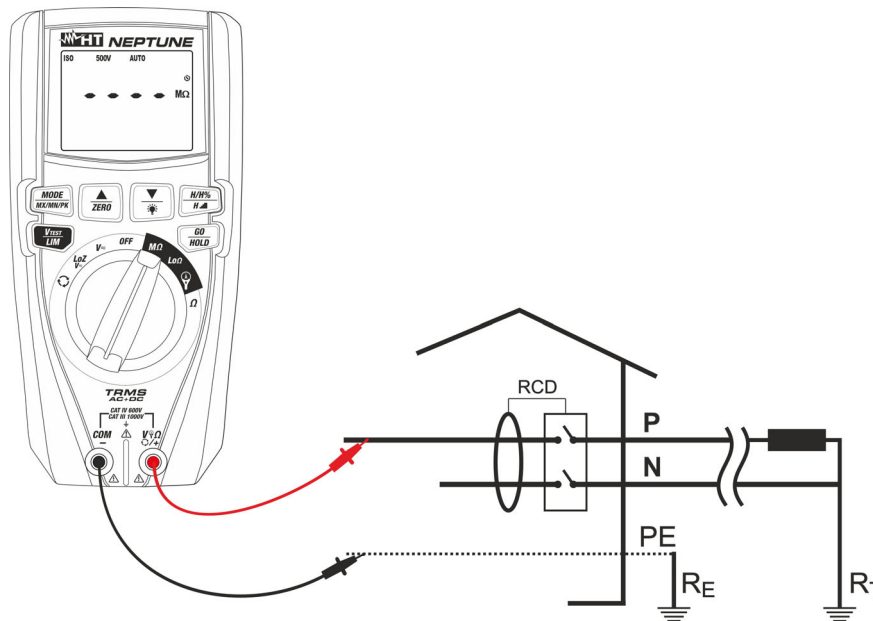

Fig. 15: Use of the instrument for insulation resistance measurement in AUTO mode
7. Insert the red lead into input terminal **V Ω /+** and the black lead into input terminal **COM/-** and possible alligator clips, and connect the instrument to the system to be tested (see Fig. 15).